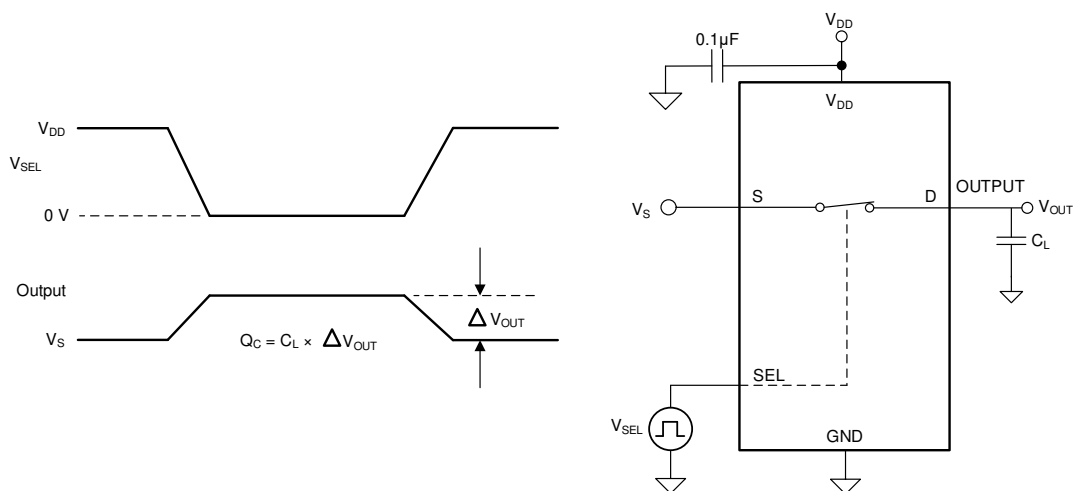

Figure 20. Charge-injection measurement setup
The TMUX110x devices have a transmission-gate topology. Any mismatch in capacitance between the NMOS and PMOS transistors results in a charge injected into the drain or source during the falling or rising edge of the gate signal. The amount of charge injected into the source or drain of the device is known as charge injection, and is denoted by the symbol Q_C . Figure 20 shows the setup used to measure charge injection from source (S) to drain (D).